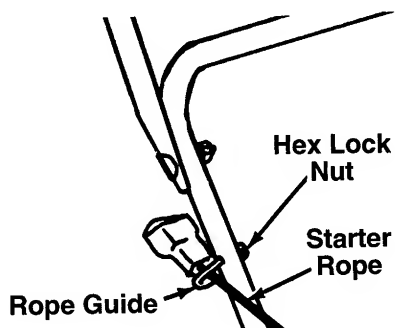

FIGURE 6.
3. Place the rope guide around the starter rope, so the rope guide is positioned as shown (bends downward slightly). Insert the rope guide through the right side of the lower handle, and secure with hex lock nut. See figure 6.